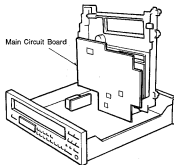

Fig. 11
12. Now the Main Circuit Board is ready for checking. When it is necessary to check the back side (foil side) of the main Circuit Board, remove 4 PCB Supports and place it upright as shown in Fig. 11.